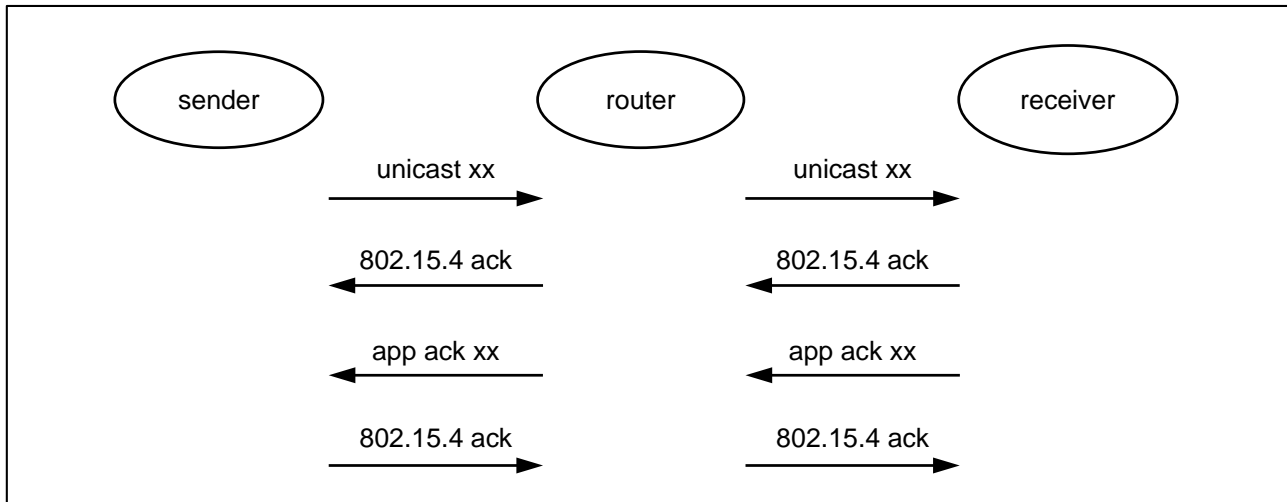

Figure 9. Acknowledgements for unicast message number xx
4.8 seconds a NACK prompt is reported. If a message is not acknowledged even at the MAC layer, it is sent four times at about 4ms intervals according to the 802.15.4 specification [1], and the stack sends each burst five times at about 50ms intervals. Therefore typically sixty attempts are made to send a message before a NACK is reported. Figure 9 shows the sequence of the acknowledgements at the two layers.